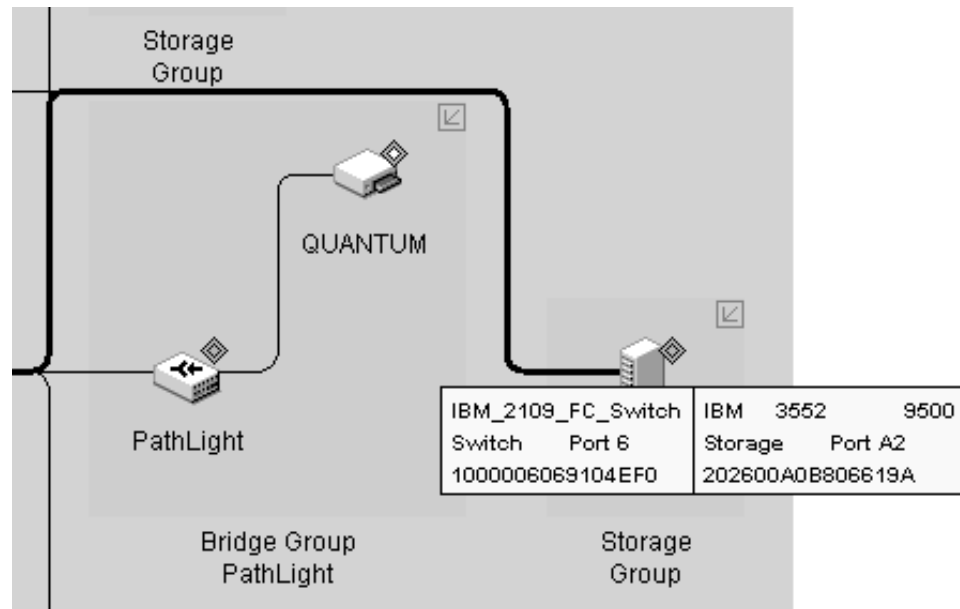

Figure 109. Device tip
- Determine the source and destination of a connection through the Device Tip. The Device Tip, shown in Figure 109 on page 251, pops up when you place the cursor over the selected connection.